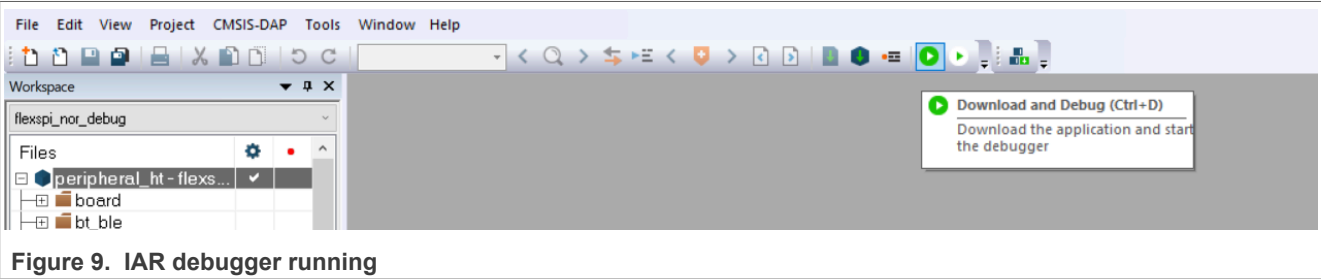

Figure 9. IAR debugger running
4. Click the **Download and Debug** button to flash the executable onto the board, as shown in Figure 9. After the download is complete, if you must test the function of HFP, stop IAR debugging, and then connect the PCM interface. Reset the target board by manually.